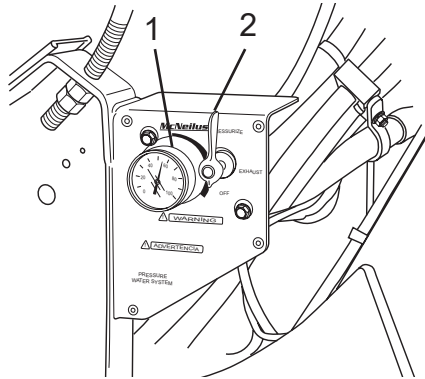

Figure 83
2. Turn air pressure control valve to the PRESSURIZE position (Figure 83, Item 1). The water tank will be pressurized from the chassis air system. The air gauge (Figure 83, Item 2) will indicate the pressure in the water tank. The pressure must not exceed 55 PSI (380 kPa).